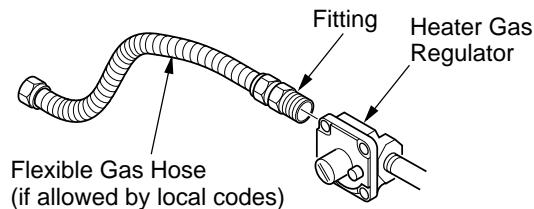

Figure 11 - Attaching Flexible Gas Hose to Heater Gas Regulator
1. Apply pipe joint sealant lightly to male threads of the fitting to be threaded into gas regulator. Connect approved flexible gas hose to gas regulator of heater (see Figure 11, page 11). **IMPORTANT:** Hold gas regulator with wrench when connecting flexible gas hose.